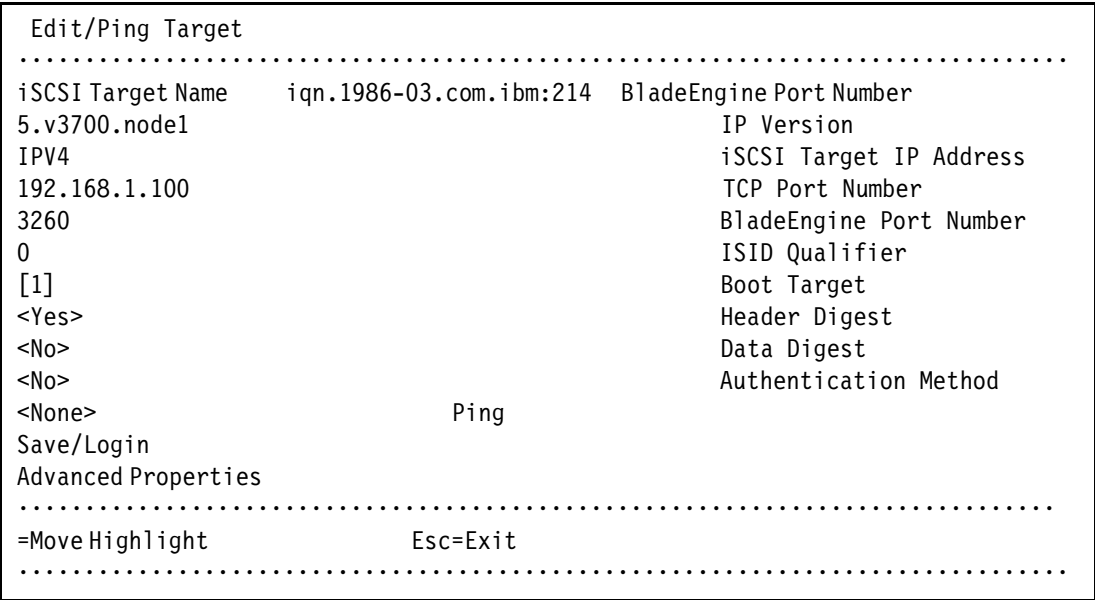

Figure 9-22 Edit/Ping Target panel
- 14.In the Edit/Ping Target panel (Figure 9-22), follow these steps:
- 15.In the Edit/Ping Target panel (Figure 9-22):